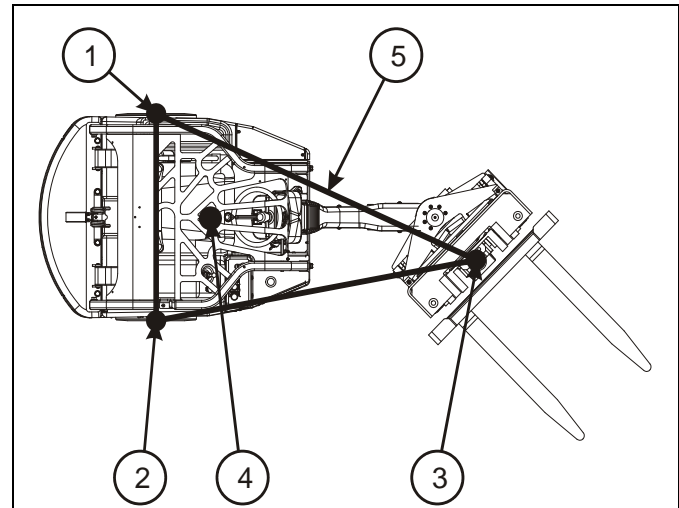
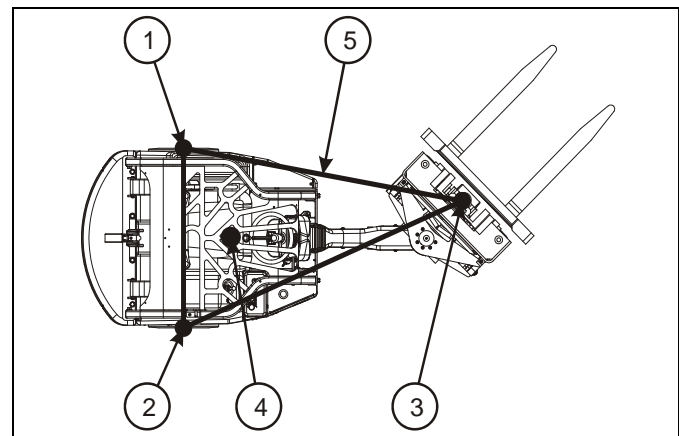

Figure 3-12: Right View 90° Stability
Figure 3-13: Left View 90° Stability
The concepts concerning stability are relatively easy to understand. As the angle between the forks and the body of the truck approaches 90° to the right, See Figures 3-12 or left, See Figures 3-13, the truck is in its least stable position. Unlike an automobile which has four points of suspension, the Bendi B3/30 AC forklift truck operates on a three-point suspension. When the forks are turned nearly 90° to the right, two of the suspension points are on the rear axle (item 1) and (item 2). The third suspension point is the center point of the front wheel (item 3). The center of gravity, an imaginary point at which all of the truck's weight is concentrated, is located as shown (item 4) when:
Again, imagine a triangle, drawn between the three suspension points. The forklift is most vulnerable in three conditions: See Figure 3-13.